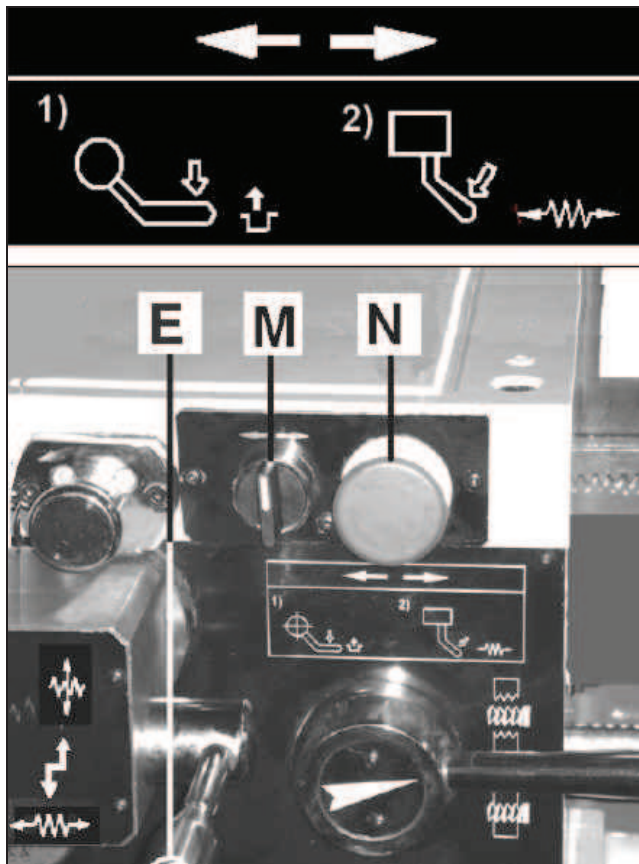

Fig 17
- Engage the longitudinal feed set lever (E, Fig 17) to the  position (push left and down).
- Rotate the rapid feed switch (M, Fig 17) in the desired direction